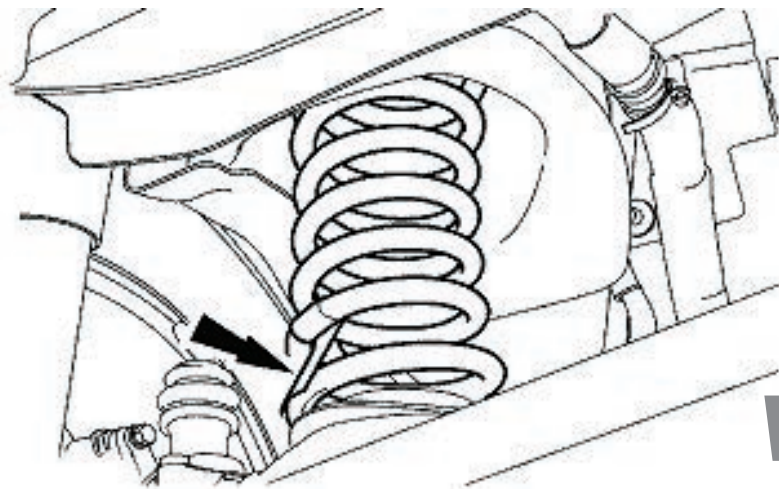

fig. 5
5. Remove the coil spring and rubber isolators (fig. 5).